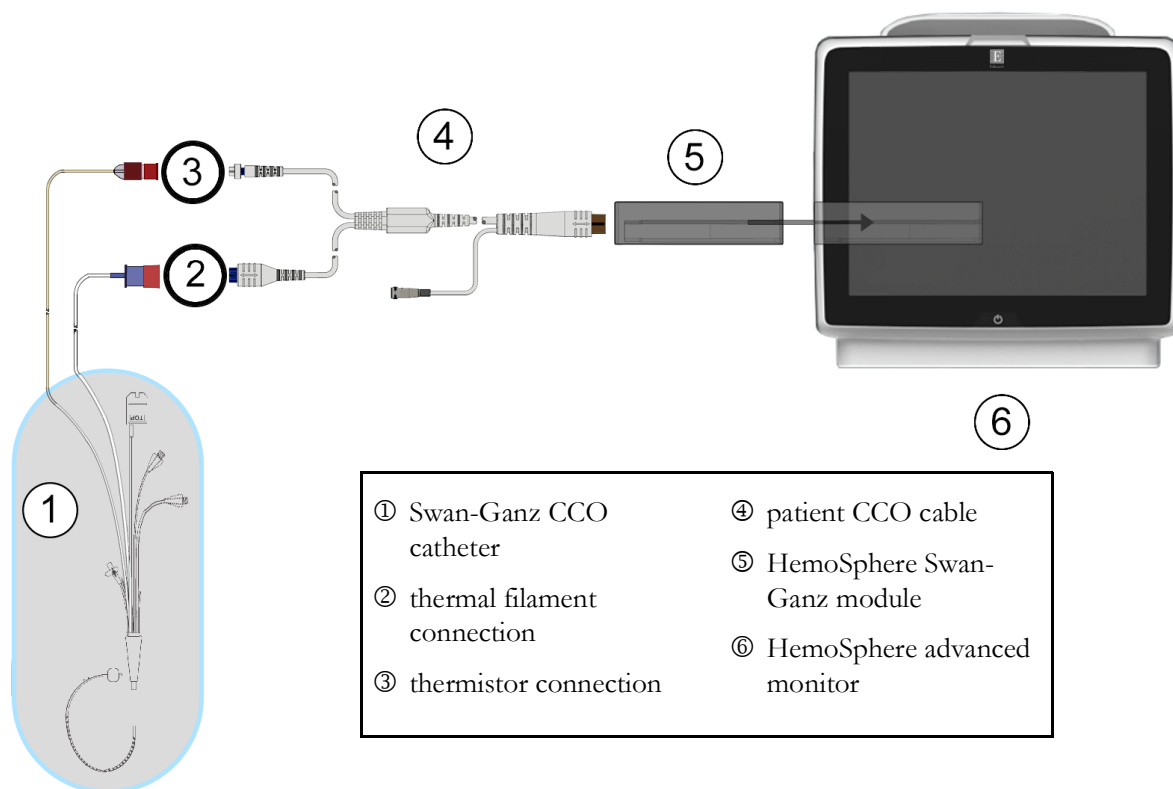

Figure 9-3 CO connection overview
- 2 Attach the catheter end of the patient cable to the thermistor and thermal filament connectors on the Swan-Ganz CCO catheter. These connections are emphasized as numbers ② and ③ in figure 9-3 on page 100.